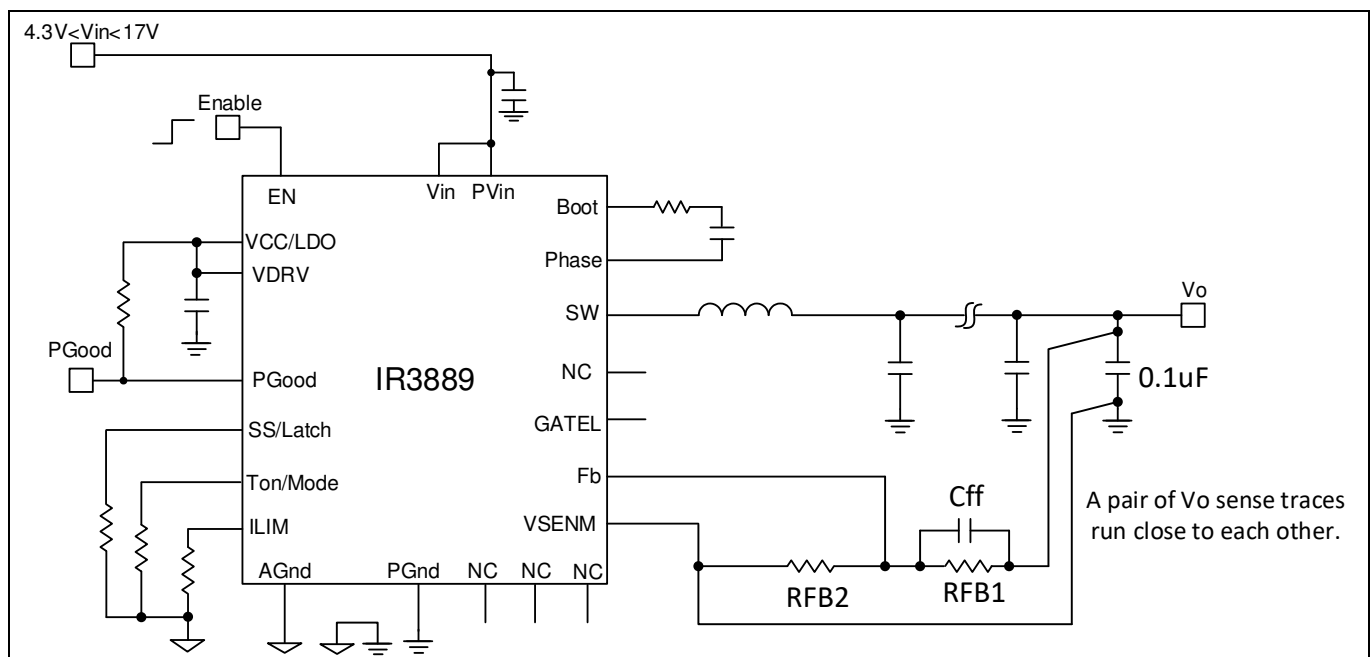

Figure 24 Pseudo remote Vo sense configuration
- If it is required to sense the output voltage at a remote location, pseudo remoting sensing can be implemented as follows. The configuration is also shown in Figure 24.